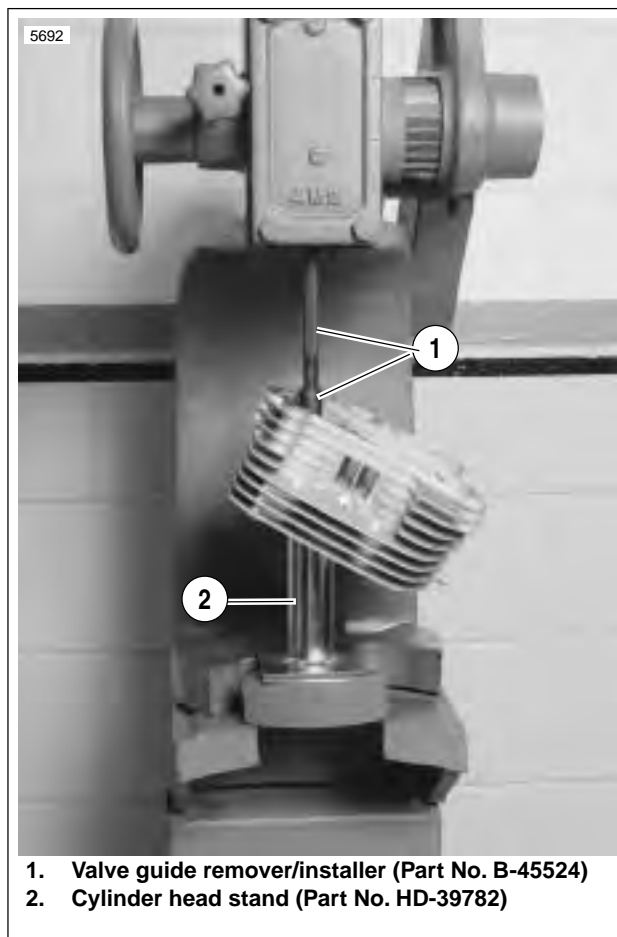

Figure 3-74. Installing Shoulderless Valve Guide
- See Figure 3-74. Install shoulderless guides using VALVE GUIDE REMOVER/INSTALLER TOOL (Part No. B-45524). Press or drive guide until the tool touches the machined surface surrounding the guide. At this point, the correct guide height has been reached.